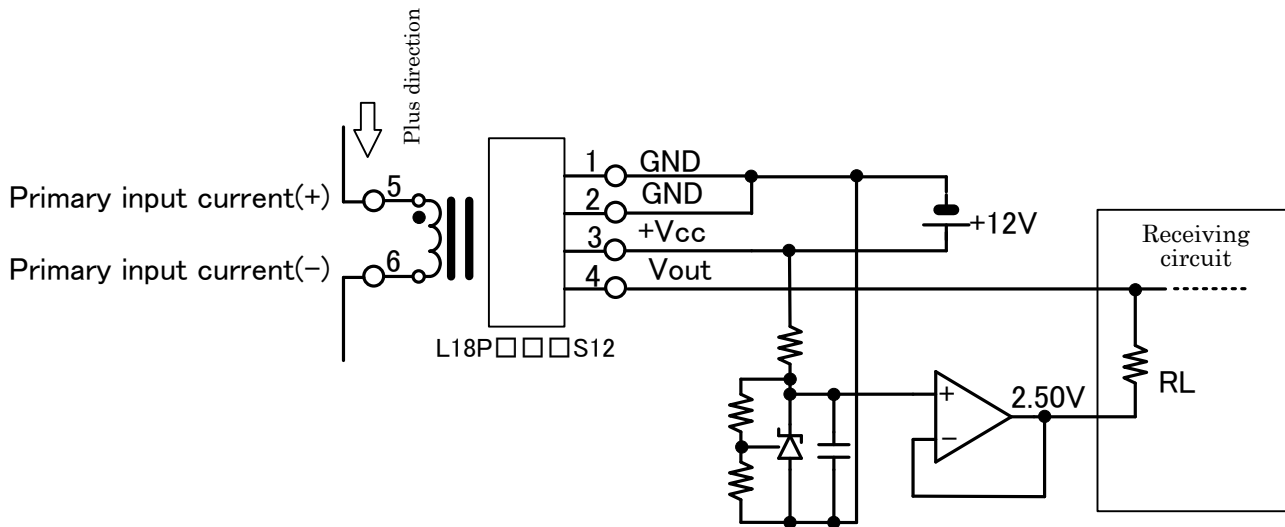

Fig. 8: L18P□□□S12 Standard circuit
□ Description of Fig. 8
$R_L = 10 \text{ k}\Omega$ in Fig. 8 is the equivalent resistance of the receiving circuit of the current sensor output V_{out} (4). Connect between V_{out} terminal (4) and reference potential (2.50V).